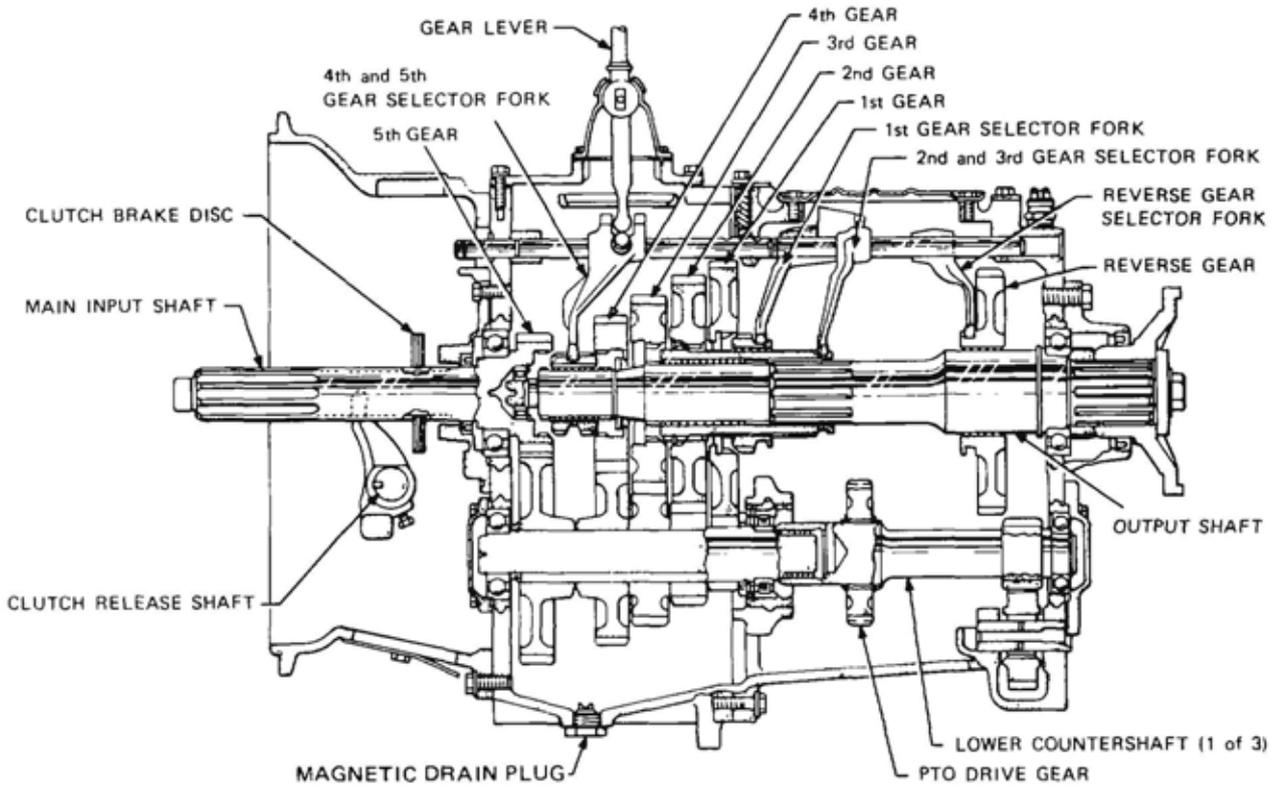

Figure 56 Sectional View of Transmission
79. A Mack Maxitorque TRL1078 Transmission as shown in Figure 56 is fitted to the vehicle. This is a triple countershaft transmission providing five forward speeds and one reverse speed. The gearbox case is a two-piece high strength aluminium construction with cast iron liners at all shaft bearing locations.